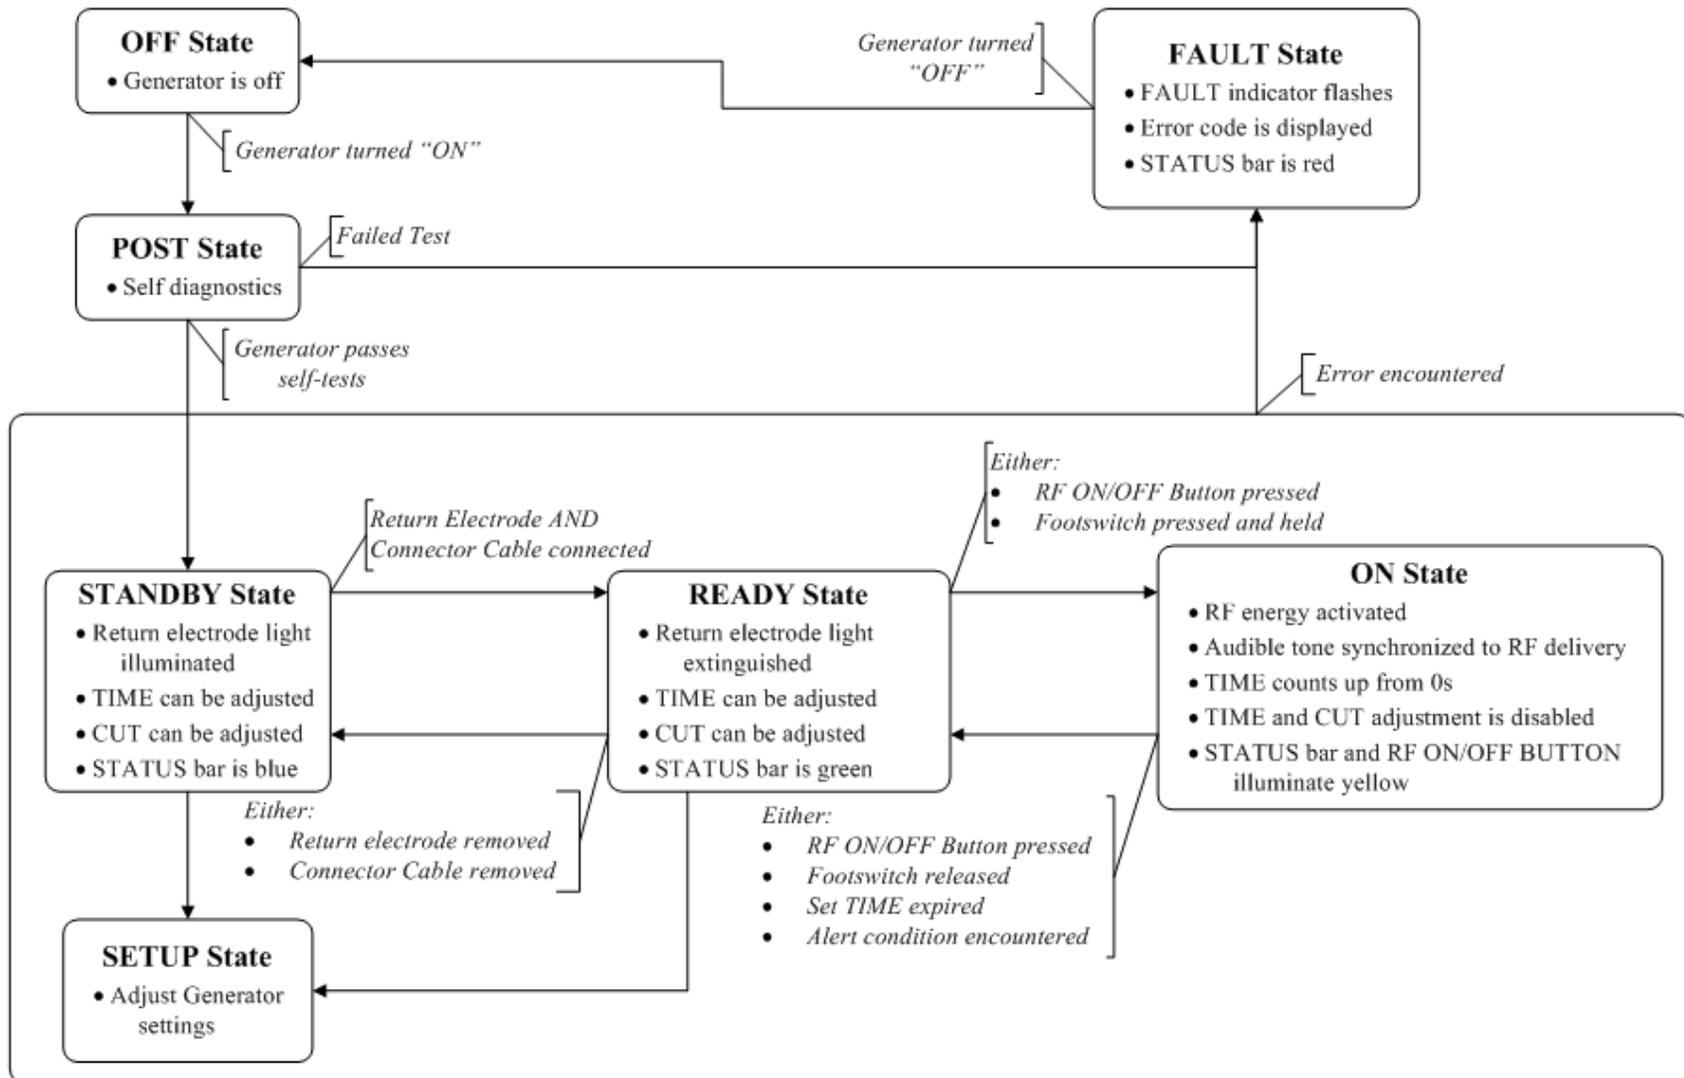

Figure 5-3 – Generator States Flow Chart
- (1) **AC Power Indicator:** This green LED illuminates when the Generator is turned on.
- (2) **FAULT Indicator:** This red LED illuminates and flashes when a system ERROR has occurred. System errors include self-test failures, hardware protection errors, hardware measurement errors, and software failures. Main power to the Generator must be cycled (off-on) to attempt recovery from a system error. Consult instructions for use.
- (3) **Ambient Light Sensor:** This sensor detects the ambient light level. Screen brightness is automatically adjusted according to ambient light level (bright (HIGH) in a bright room and dimmed (LOW) in a dim room).
- (4) **Return Electrode Fault Indicator:** The red LED illuminates when a return electrode is NOT connected to the generator OR when the measured impedance of a monitoring (dual foil) return electrode is greater than 150 ohm, indicating poor patient contact. Note: Only use return electrodes that meet or exceed IEC 60601-2-2:2017 requirements.
- (5) **STATE Status Bar:** This window displays the current STATE of the Generator. The various Generator states and how they are related are shown in Figure 5-3 – Generator States Flow Chart.
- (6) **TIME Setting Window:** This window displays the desired RF output duration (in seconds). This window also displays the functions for the soft keys used to adjust the TIME setting.
- (7) **Left column soft keys:** These keys allow for parameter adjustment. Their function is displayed on the screen to the right of the soft key, when applicable. For example, the up ▲ and down ▼ arrows are displayed when the keys are to be used to increase or decrease a setting.
- (8) **CUT Setting Window:** This window displays the desired CUT mode. CUT modes are BMC RF Device specific and described in Section 9.3. The BMC RF Device’s instructions-for-use should be consulted for appropriate settings to use. This window also displays the function for the soft keys used to adjust the CUT setting.
- (9) **Right column soft keys:** These keys allow for parameter adjustment. Their function is displayed on the screen to the left of the soft key, when applicable. For example, the up ▲ and down ▼ arrows are displayed when the keys are to be used to increase or decrease a setting.
- (10) **Bottom row soft keys:** These soft keys have various functions. Each key’s function is displayed on the screen above the soft key when applicable.
- (11) **Message Window:** This window displays functional and informational messages when required.
- (12) **Return Electrode Connection:** This patient isolated connection is for attachment of an approved dispersive (return) electrode. **Only use dispersive electrodes that meet or exceed IEC 60601-2-2:2017 requirements.** Either non-monitoring (single foil) or monitoring (dual foil) electrodes can be used.
- (13) **Connector Cable Connection:** This patient isolated connection is for the attachment of the RFP-100A connector cable. The user shall refer to the BMC RF Device instructions-for-use to select the proper connector cable model.
- (14) **RF ON/OFF Button and Indicator:** Upon press and release, this button initiates RF energy delivery when the Generator is in the READY state. This button terminates RF energy delivery when the Generator is in the ON state. The indicator in the button illuminates yellow when the Generator is in the ON state.
- (15) **USB Port (side):** When a USB memory stick is connected, treatment data from the last twenty (20) RF energy deliveries is downloaded. When left connected, data from subsequent RF deliveries is downloaded on a per treatment basis.